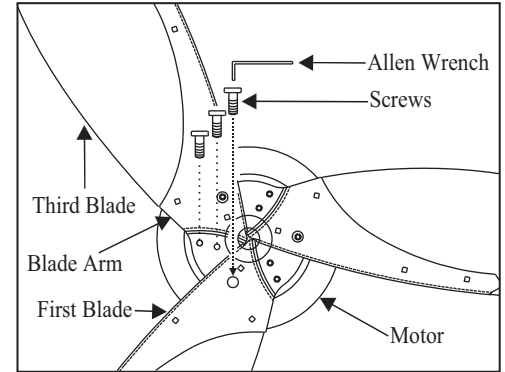

Figure 15
2. For third blade assembly: Remove the screws from the motor, attach the third blade assembly to the motor by securing 2 of 3 screws provided at first, secured with Allen wrench. Then attach the third screw to the motor by going through the holes on the first blade bracket and third blade bracket, see Figure 15.